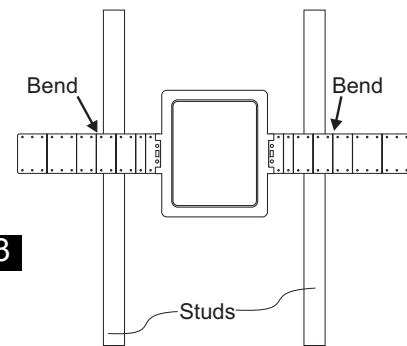

fig.3
2. Select the desired location for the speaker, using a level to ensure that it is precisely positioned. The wings feature progressively elongated sections (1", 1", 2", 2", 2", 3", 3") with screw holes spaced in one-inch increments. Attach the wings to the studs with the 5 x 50mm flathead screws or staples. For maximum stability, use two screws for each wing. Bend back the extra portion of the wing at one of the "break" lines (**fig.3**).